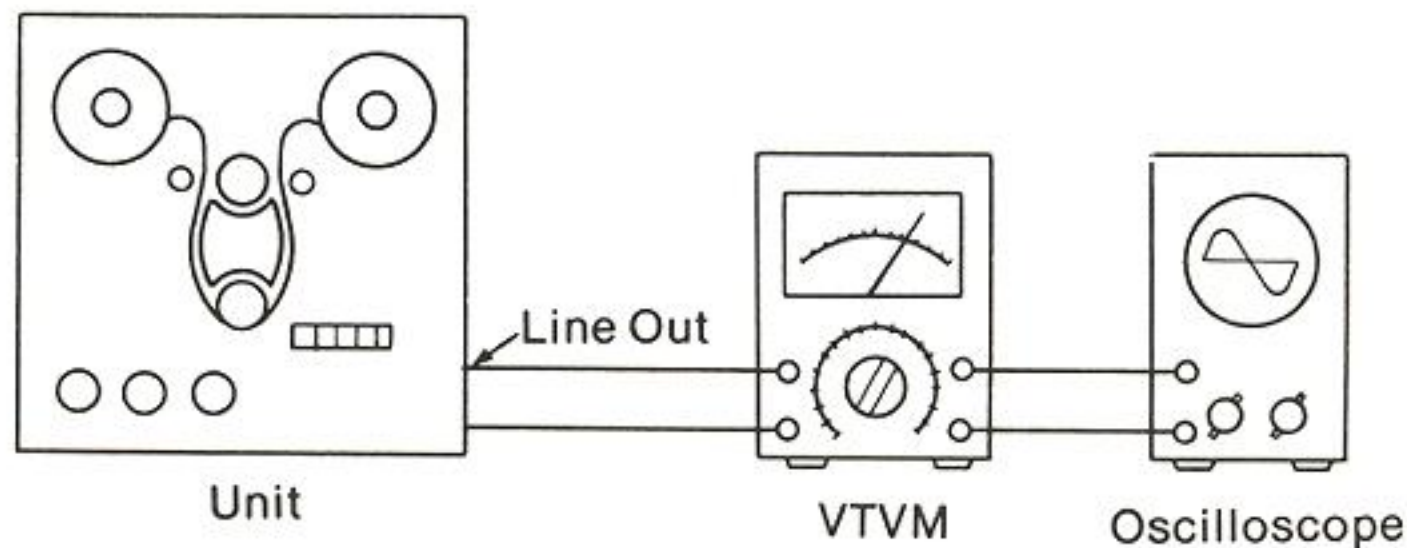

Fig. 33
1. Test equipment connections are shown in fig. 33.
1. Test equipment is shown in fig. 33.